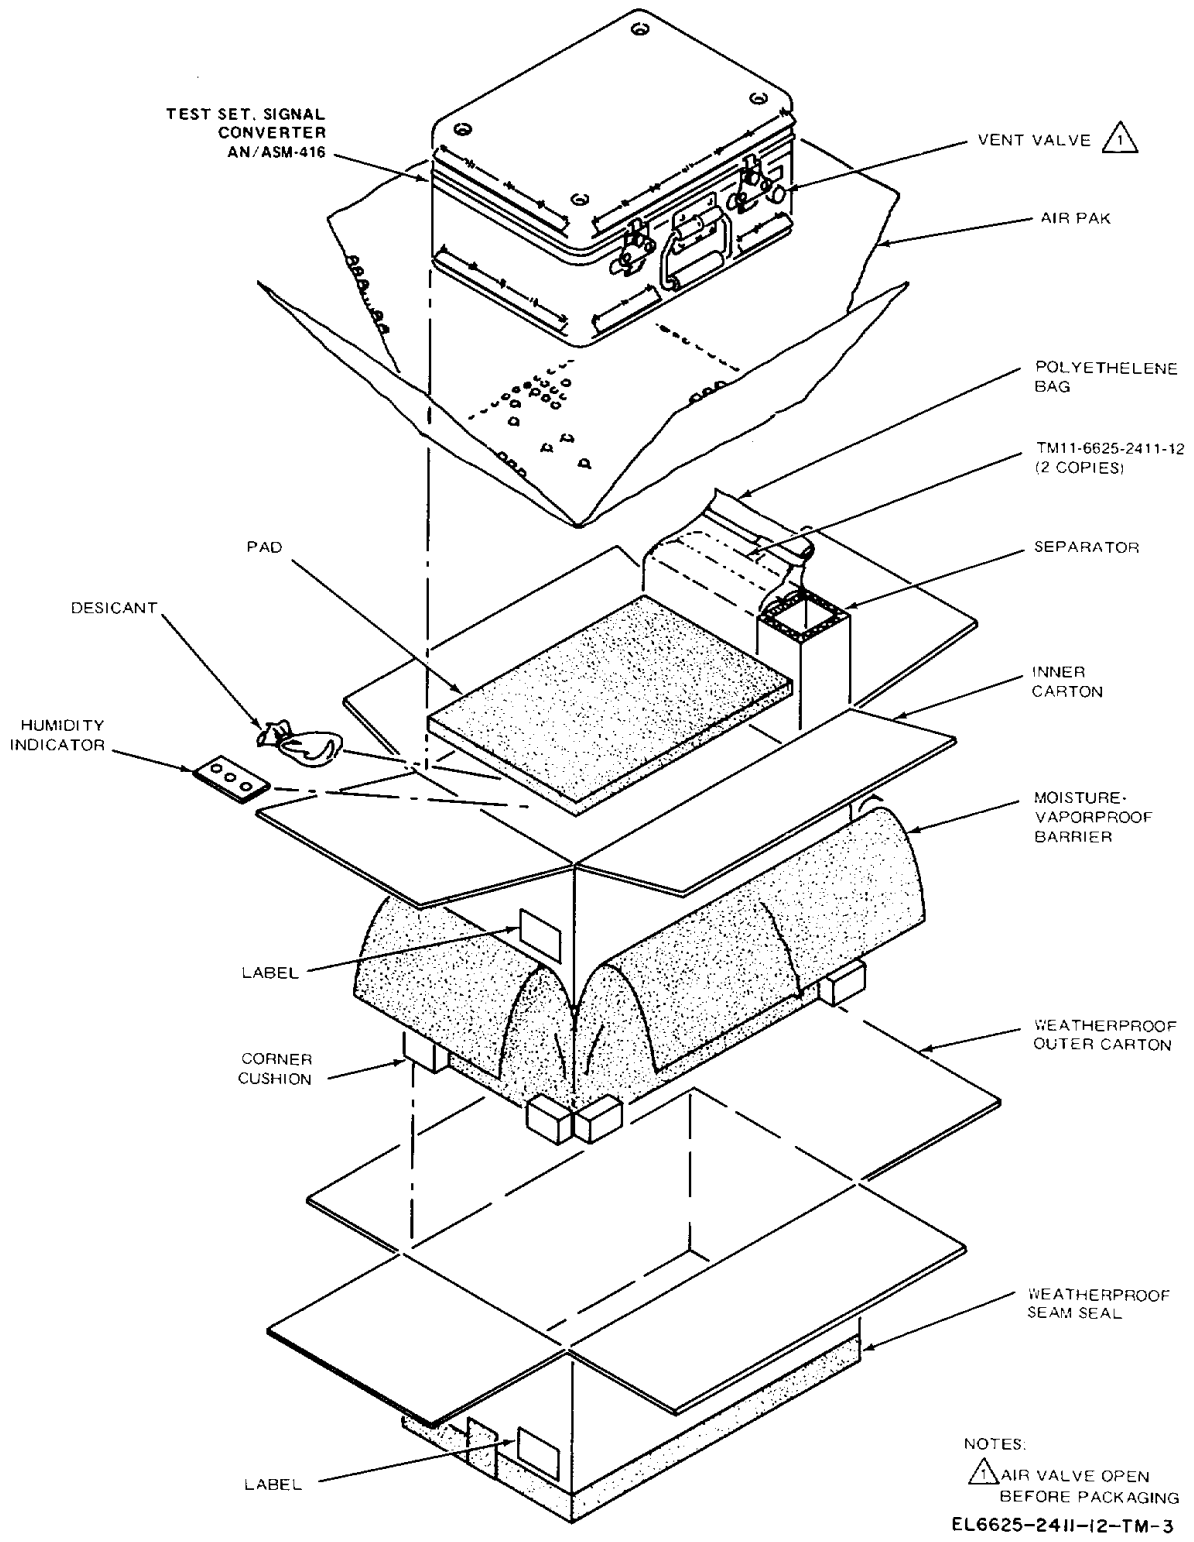

Figure 2-1. Test Set, Signal Converter AN/ASM-416 packaging.
a. *Packaging Data.* When packed for shipment (fig. 2-1) the Test Set, Signal Converter AN/ ASM-416 is placed in a close fitting cardboard inner container which also contains two copies of TM 11-6625-2411-12, a humidity exposure indicator, and desiccant material. This inner container is completely enveloped by an airtight foil barrier material which is further protected by a weatherproof outer container. The dimensions, volume, and weight of the carton are-